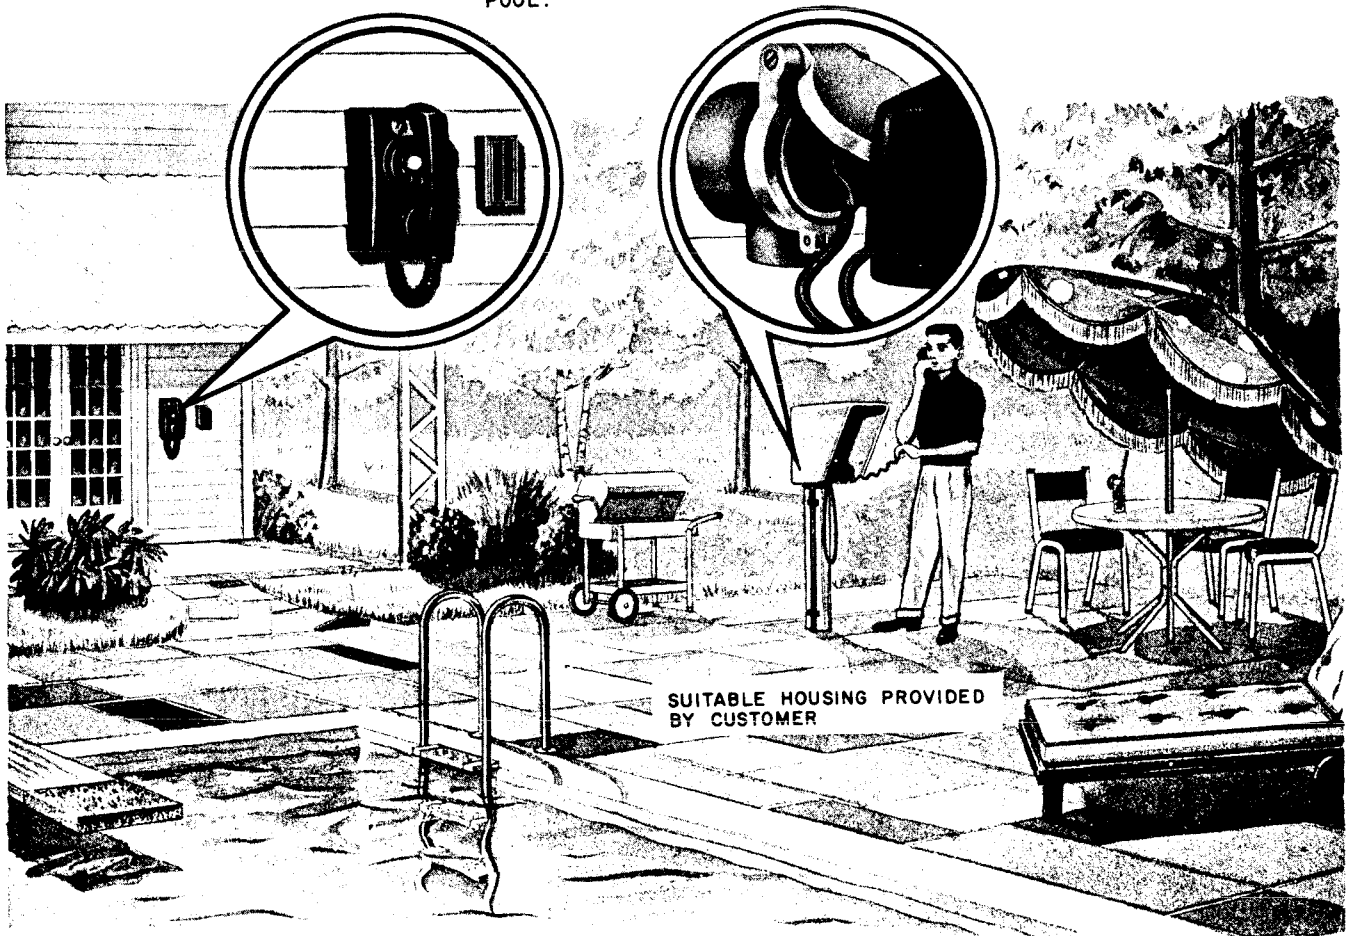

Fig. 1 — Recommended Installation of Pool and Patio Telephone
*Caution:* Under no circumstances shall telephone apparatus cords be long enough to reach a swimming pool. The customer should be so advised preceding the installation. Trench or conduit runs to telephone locations can then be planned accordingly. See Fig. 1 for typical recommended installations.